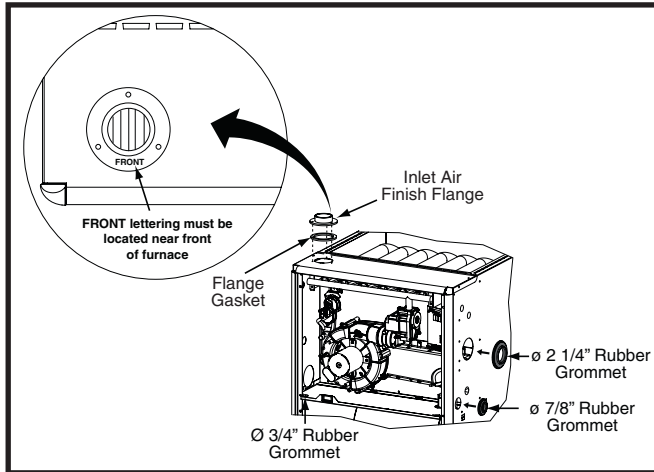
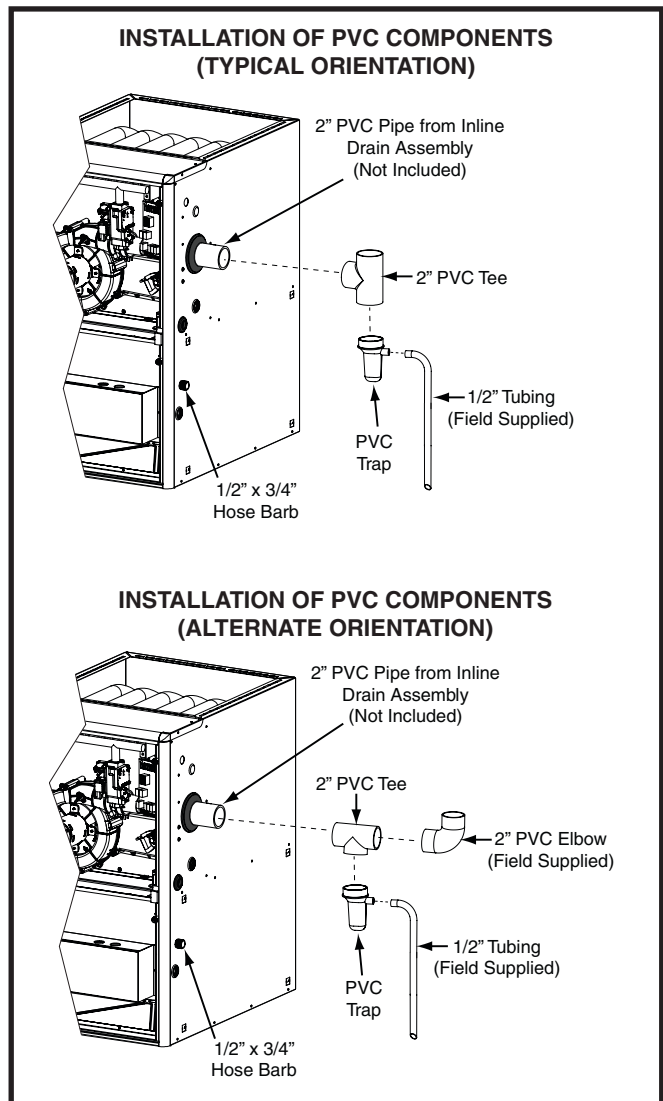

Figure 14. Finish Flange & Rubber Grommets
Figure 15. PVC Components
The components in Figure 14 \(page 18\) & Figure 15 \(page 18\) are included in the extra parts bag supplied with the purchase of *TE / *TN furnaces. Depending on your particular installation, some of these components are optional and may not be used. Please refer to the descriptions and accompanying figures when installing these items.
NOTE: Make sure the flange is properly oriented so that the FRONT lettering is located near the front of the furnace as shown in Figure 14.
The 2 1/4" rubber grommet is used to seal the opening between the furnace cabinet and the 2" PVC vent pipe. The rubber grommet should be installed in the 3" hole prior to running the vent pipe out of cabinet. No sealants are required. See Figure 14.
- The 2" PVC pipe shown in Figure 15 is not provided in the extra parts bag.
The 2" PVC Tee and Trap are used when the inducer is rotated to vent out thru the left or right side of the furnace cabinet. See Figure 15.
1. Install the PVC Tee vertically on the 2" vent pipe that is extending out the side of the cabinet. Permanently bond them together using appropriate primer and cement. Refer to the typical orientation shown in Figure 15.
1. Install the 2" PVC Tee horizontally on the 2" vent pipe that is extending out the side of the cabinet. Permanently bond them together using appropriate primer and cement. Refer to the alternate orientation shown in Figure 15.